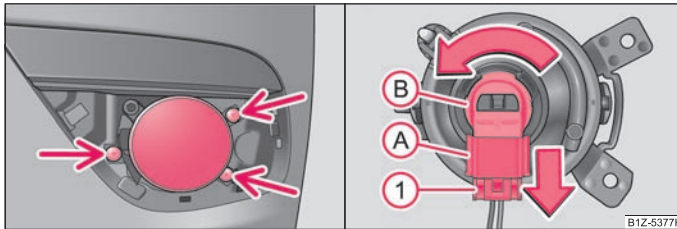

Fig. 199 Front bumper: Fog lights/fog lights: Replacing light bulb
- Use the screwdriver to unscrew the screws from the car tool kit ²¹⁾ ⇒ fig. 199 - left.